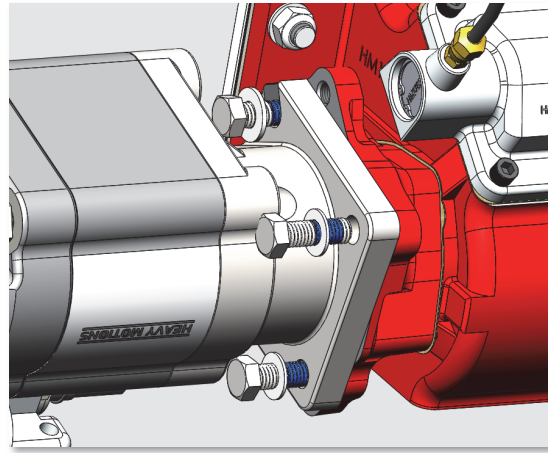

Fig. 17
4. Apply a drop of Loctite 290 on each bolt, install washers and bolts (Fig. 17).